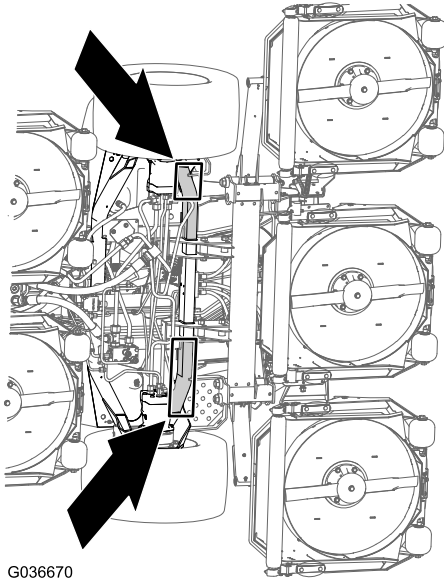

Figure 31
**Front of the machine**—at the frame of the machine, forward of the wheel-drive motors (Figure 31)